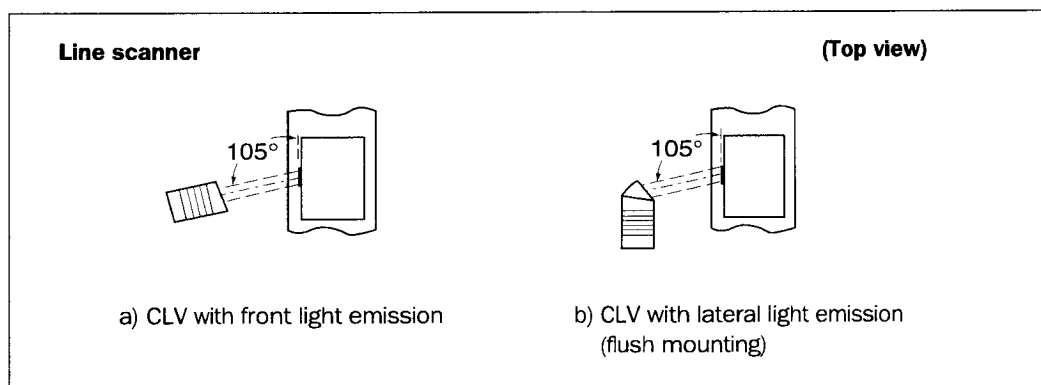

Fig. 11. Preventing surface reflection by rotating the CLV from the perpendicular
- Mount the CLV with front light emission (a) in such a way that the scan line(s) strike the bar code at an angle less than approx. 15° from the vertical reference (Fig. 11).